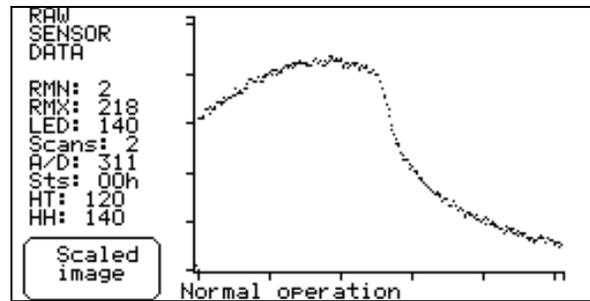

Figure 6.51 Optical image and raw data.
Select Calibrate/Optical image from the Normal Display (Figure 2.60). The screen (Figure 6.51) contains now all raw data from the Sensor including the signals from each photo cell, i.e. the raw video signal. This differs from the Optical image, Figure 2.72, selected through the "Display" key.
The video signal describing the optical image should look like Figure 6.51. In that case the Sensor is OK, and it should not be touched. If the concentration output does not agree with laboratory values, a Field calibration (Section 5.3) should be done.
- Max: The filtered value of the maximum light intensity RMX of the raw data (Figure 6.51).